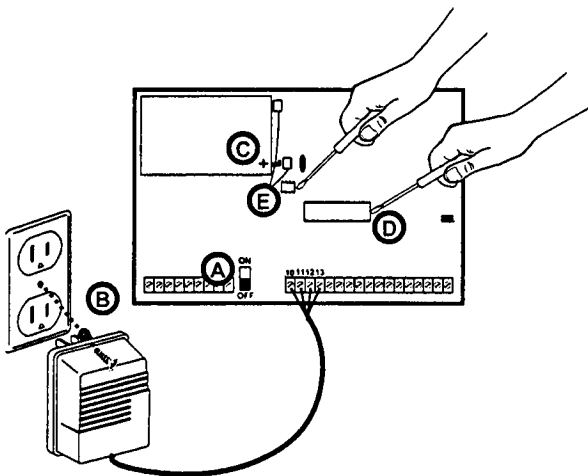

Figure 2. Removing the Existing Chips
- 1) Remove the panel cover and turn off the panel power switch (see A in Figure 2).
- 2) Unplug the AC power transformer (see B in Figure 2).
- 3) Disconnect the panel backup battery positive (+ or red) lead (see C in Figure 2).
- 4) Using a small pocket screwdriver or chip extractor, carefully remove the existing microprocessor and EEPROM chips from their circuit board sockets (see D and E in Figure 2).